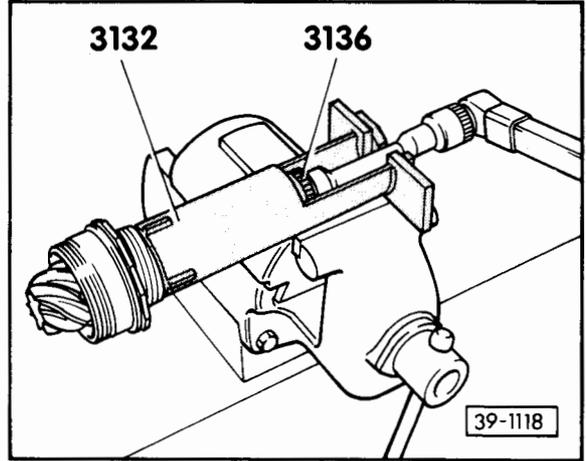

Fig. 3 Unscrewing and tightening slotted nut
- Unscrewing, final drive with viscous coupling – Fig. 3